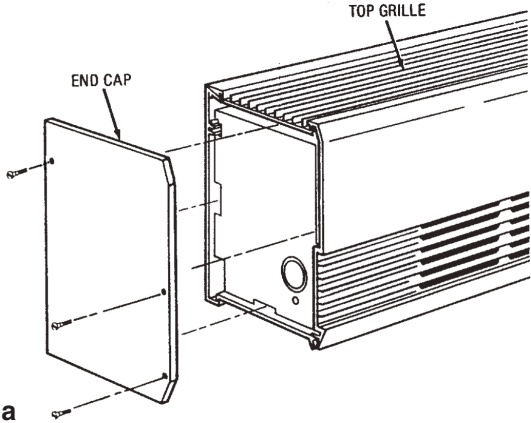

Figure 1a
1. Position the end cap on the end of heater. Install three (3) No. 6 flat head screws (supplied) to secure the end cap to the front cover. (See Figure 1A.)